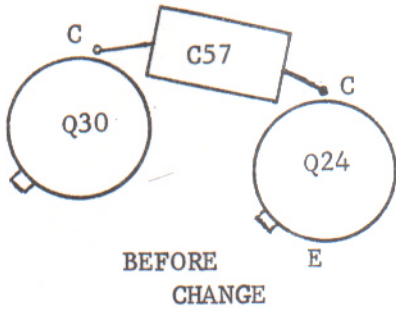

FIGURE 1
1. Remove Capacitor C-57 which is connected between the collectors of Q-30 and Q-24 (see figure 1).